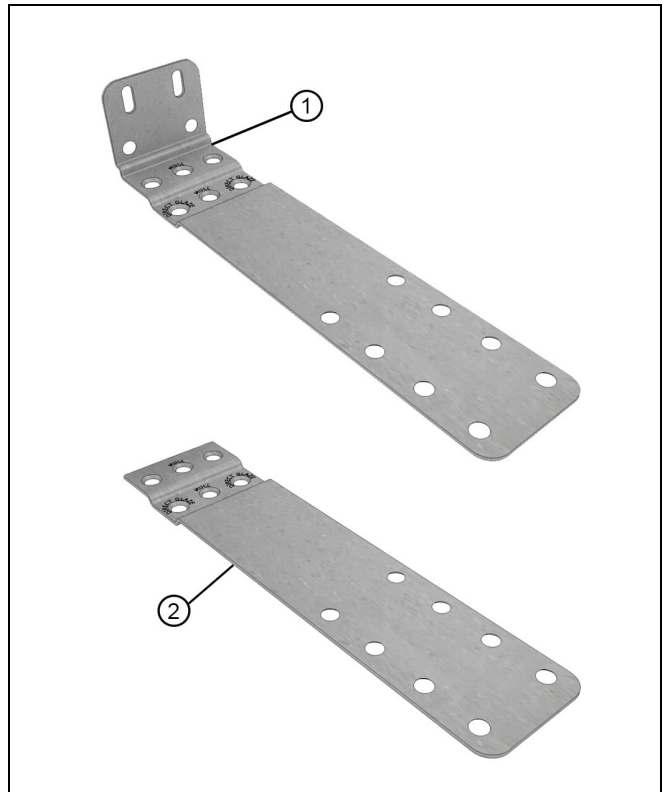

Figure 6
3. On masonry openings you will need to modify the bracket. Remove the front leg of the bracket by cutting with a metal cutter or similar tool. See Figure 6.